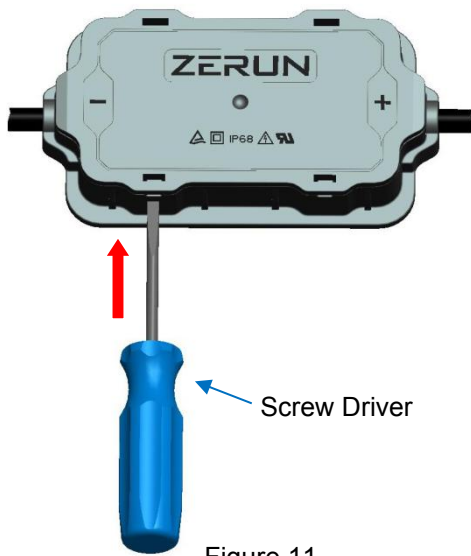

Figure 11
**Open the Box:** To open the lid of the junction box, the tip of a screwdriver having a 3 to 5 mm flat blade must be inserted into the corresponding slot of the lid, see Figure 11, and then turn the screwdriver evenly and slightly until the snap get loose, see Figure 12.